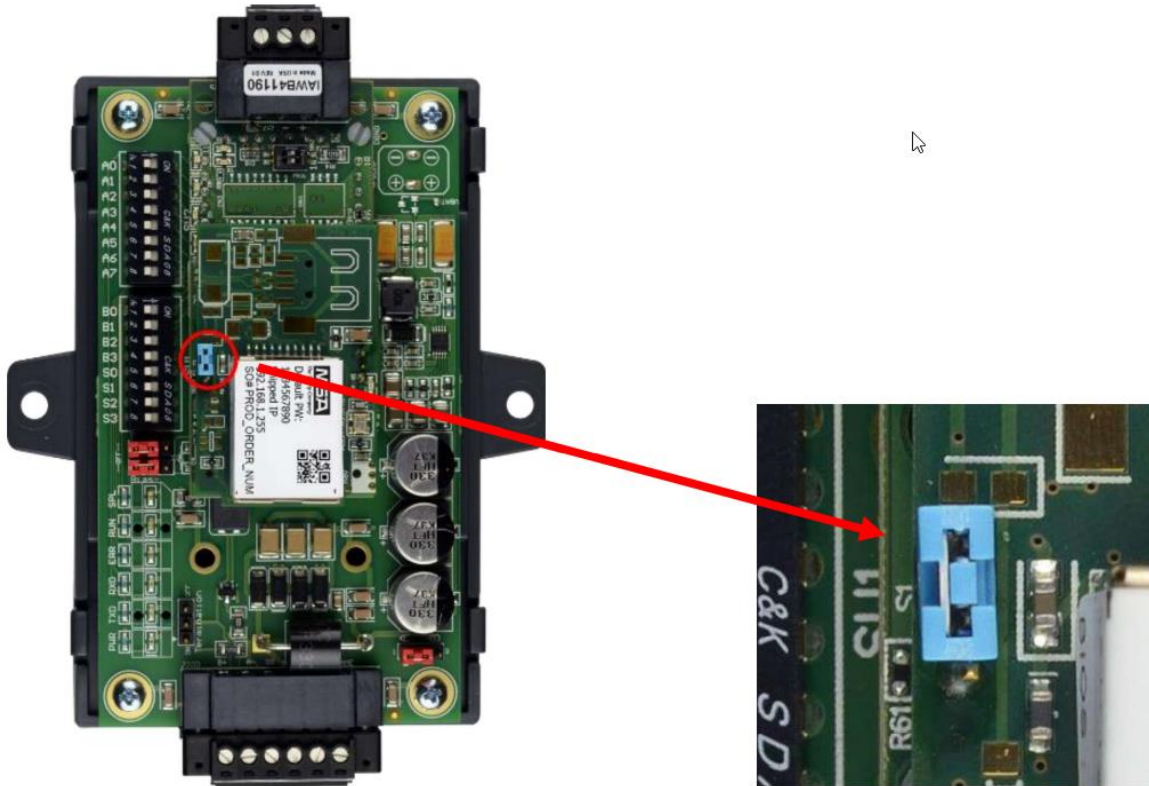

Figure 32 ProtoNode with Jumper Set for Recovery
- Put a jumper on the first and second pins shown on the left side of the Ethernet port shown in figure 32.